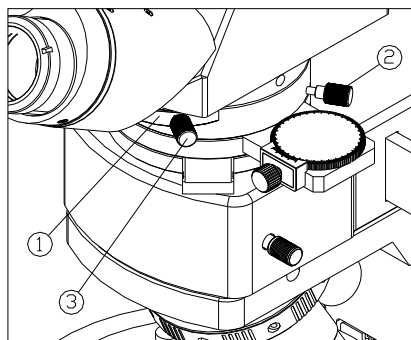

Fig.34
(1) Move the high magnification objective (50X) into the light path, and set the polarizer and the analyzer in the H-V location. (See Fig. 34)
(2) Put in the slice (as Mica), then turn the coarse and fine focusing knobs until the image is clear.
(3) Rotate the Bertrand lens switch turntable ①, locate it on position "B", to move the Bertrand lens into light path. At that time, the "black cross" can be seen in the eyepiece, which is the interference pattern. (Turn the stage to observe.)